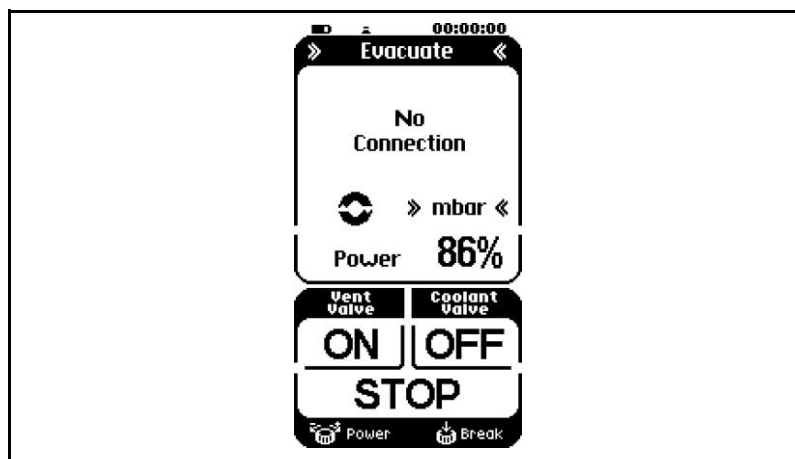

Fig. 14: Display „No connection“
- The message "No connection" will blink in the hand terminal's display (see figure 14);